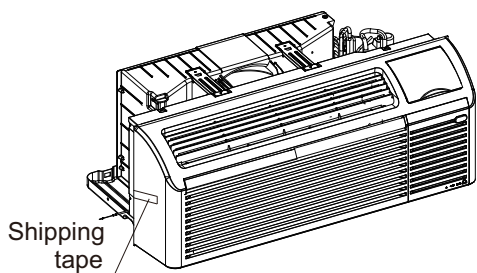

Fig. 9—Shipping Tape Location
1. Carefully remove shipping tape from the front panel and vent door. See Fig. 9.